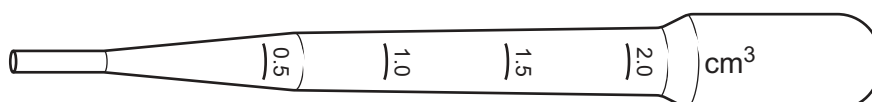

Fig. 1.1
- (a) Fig. 1.1 shows a scale marked on the side of the dropping pipette.